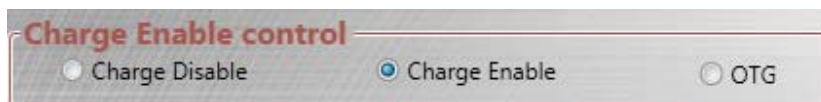

Figure 4: MP2731 GUI Operation Mode
2. Select the operation mode for the MP2731 (see Figure 4).